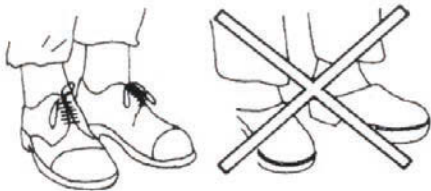

Fig. 4.1
- Wear safety shoes (figure 4.1 ).